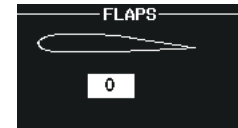

Figure 3-29 Flaps Unavailable
- Flaps unavailable – Flap pointer is removed and readout turns white with black text (Figure 3-29)